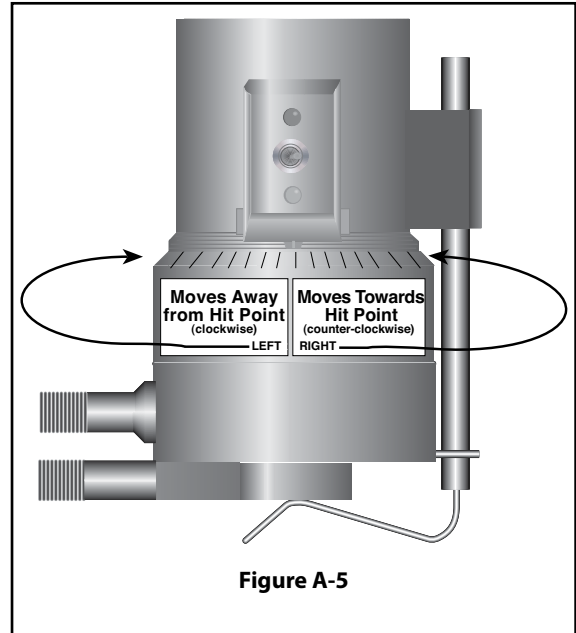

Figure A-5
2. If the contact light (yellow) is illuminated, turn the micrometer adjustment ring clockwise (as you look down on the instrument) until the light is no longer illuminated (see **Figure A-5**).